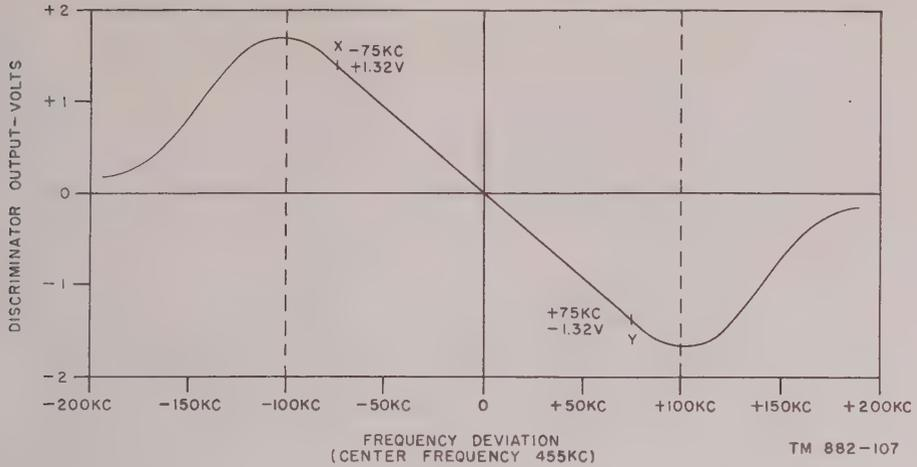

Figure 61. Over-all output of discriminator circuit showing linear portion between X and Y.
- (2) *Voltages across R358* (fig. 61). The two curves shown in figure 60 can be combined into the typical "S" characteristic of the discriminator by algebraically "adding the voltages developed across C354 and C355 as shown in figure 61. For example, at the mean frequency of 455 kc, the response of Z301 is the same as that of Z302 and the voltage developed across C354 is the same as that across C355, but since they are of opposite polarity with reference to ground, they cancel and the net output voltage across R358 is zero. Other output values are developed in the same way. Since the carrier swings are in accordance with the original modulating audio frequency and the output of the discriminator is in accordance with the swings of the carrier frequency, the original modulating audio frequency is reproduced by the discriminator. Points X and Y show the maximum deviation limits on each side of the center frequency.